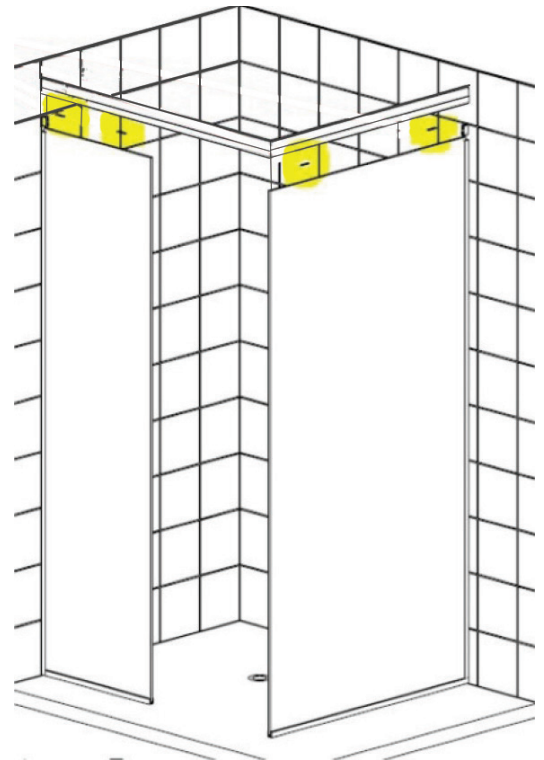

FIG 17.
- Use 2mm setting blocks on top of fixed glass panels to prevent the sliding door track metal directly contacting the glass (FIG 17). Dry fit and position on top of glass.